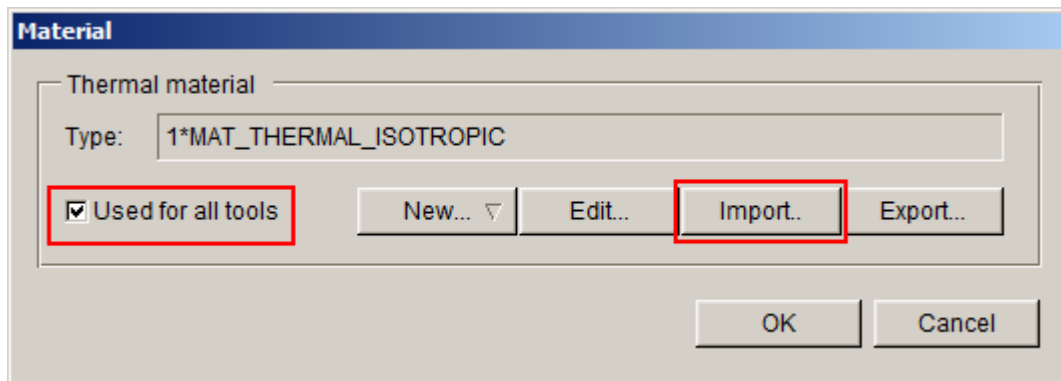

Figure 1.21 Thermal material dialog box
2. Toggle on the Used for all tools option, as illustrated in Figure 1.21.